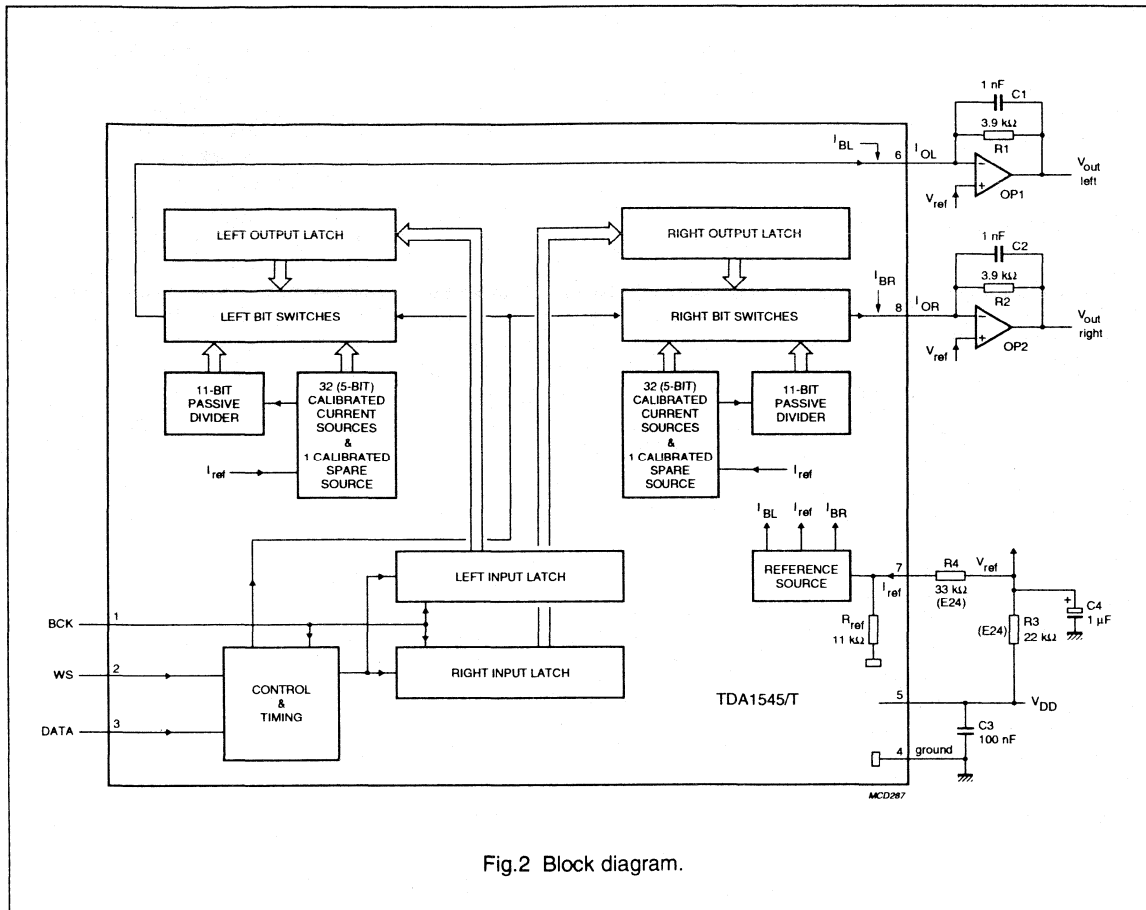
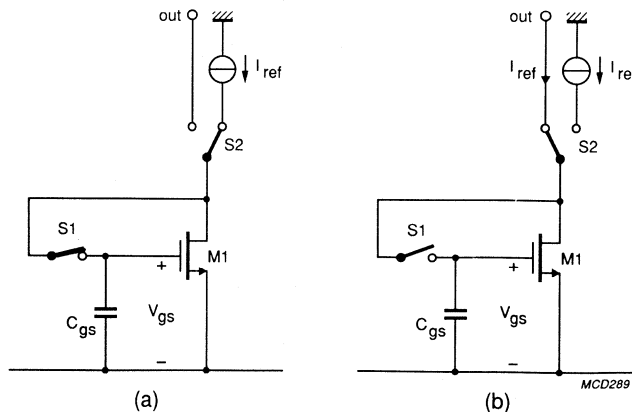

Fig.2 Block diagram.
Fig.3 Calibration principle: (a) calibration, (b) operation.
The basic operation of the continuous calibration DAC is illustrated in Fig. 3. The figure shows the calibration principle (Fig.3a) and operation principle (Fig.3b). During calibration of the MOS current source (Fig.3a) transistor M1 is connected as a diode by applying a reference current. The voltage V_{gs} on the intrinsic gate-source capacitance C_{gs} of M1 is then determined by the transistor characteristics. After calibration of the drain current to the reference value I_{ref} , the switch S1 is opened and S2 is switched to the other position (Fig.3b). The gate-to-source voltage V_{gs} of M1 is not changed because the charge on C_{gs} is preserved. Therefore the drain current of M1 will still be equal to I_{ref} and this exact duplicate of I_{ref} is now available at the I_{out} terminal. The 32 current sources and the spare current source of the TDA1545 are continuously calibrated (see Fig.2). The spare current is included to
allow for continuous convertor operation. The output of one calibrated source is connected to an 11-bit binary current divider consisting of 2048 transistors. A symmetrical offset decoding principle is incorporated and arranges the bit switching in such a way that the zero-crossing is performed only by the LSB currents. The TDA1545 accepts input serial data formats of 16-bit word length. Left and right data words are time multiplexed. The most significant bit (bit 1) must always be first. The format of data input is shown in Fig.4 and Fig.5. With a LOW level on the word select input (WS) input data is placed in the right input register and with a HIGH level on the WS input data is placed in the left input register. The data in the input registers is simultaneously latched in the output registers which control the bit switches. An internal bias current I_{bias} (see I_{BL} and I_{BR} in Fig.2) is added to the full scale output current I_{FS} in order to achieve
the maximum dynamic range at the outputs of OP1 and OP2 (see Fig.2). The reference input current I_{ref} controls with gain A_{FS} the current I_{FS} which is a sink current and with gain A_{bias} the I_{bias} which is a source current (note 1). The current I_{ref} is proportional to V_{DD} so the I_{FS} and I_{bias} will be proportional to V_{DD} as well (note 2) because A_{FS} and A_{bias} are constant. The reference output voltage V_{ref} in Fig.2 is $2/3 V_{DD}$. In this way the maximum dynamic range is achieved over the entire power supply range. The tolerance of the reference input current in Fig.2 depends on the tolerance of the resistors R3, R4 and R_{ref} (note 3).